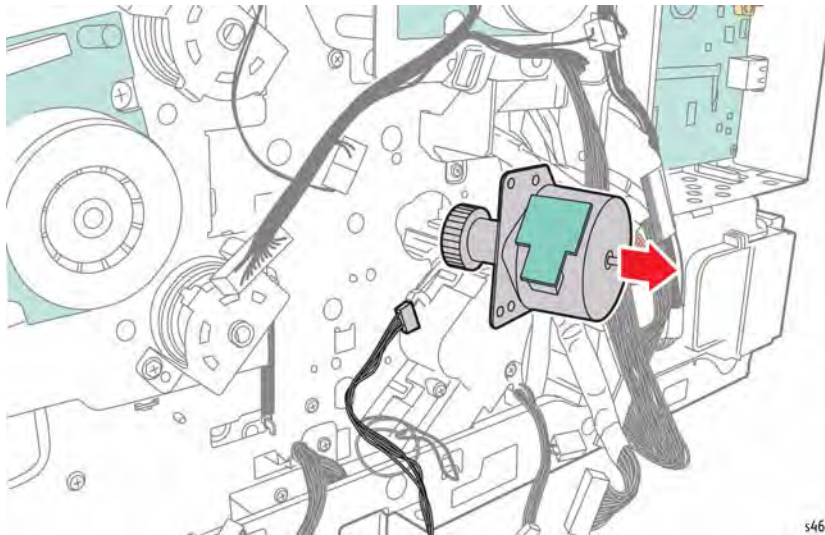

Figure 1 Remove the Duplex Drive Assembly screws
6. Remove 4 screws (Gold, metal) that secure the assembly to the chassis, Figure 1.